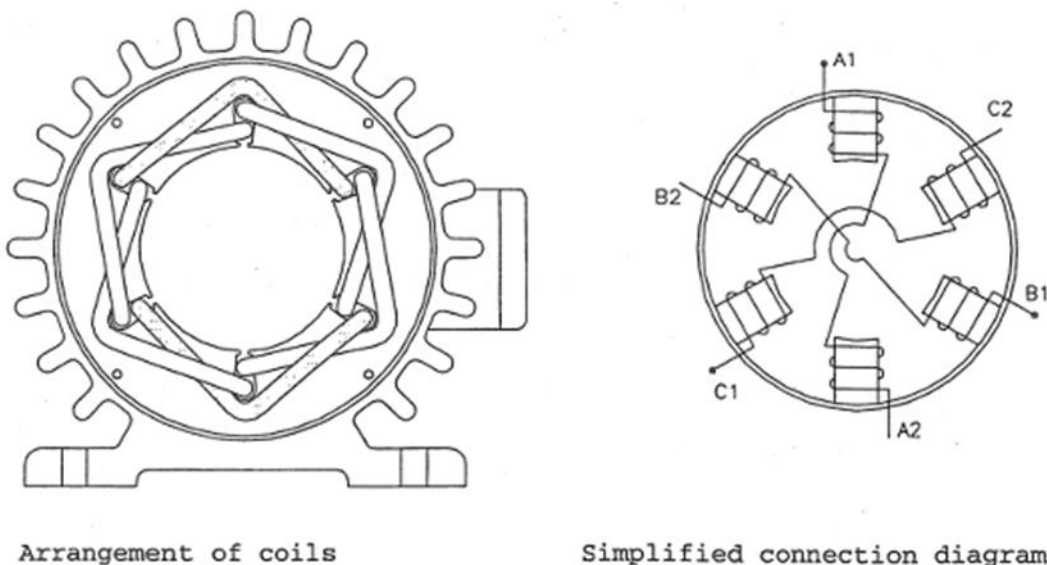

Figure 1 – Simplified two pole stator winding coil arrangement
3. A two pole three phase squirrel cage induction motor stator winding usually has six sets of coils (two for each phase). A simplified diagram of a two pole stator winding is shown in Figure 1. The coils are internally connected so that the two coils associated with each phase form magnetic poles of opposite polarities on opposite sides of the stator core.